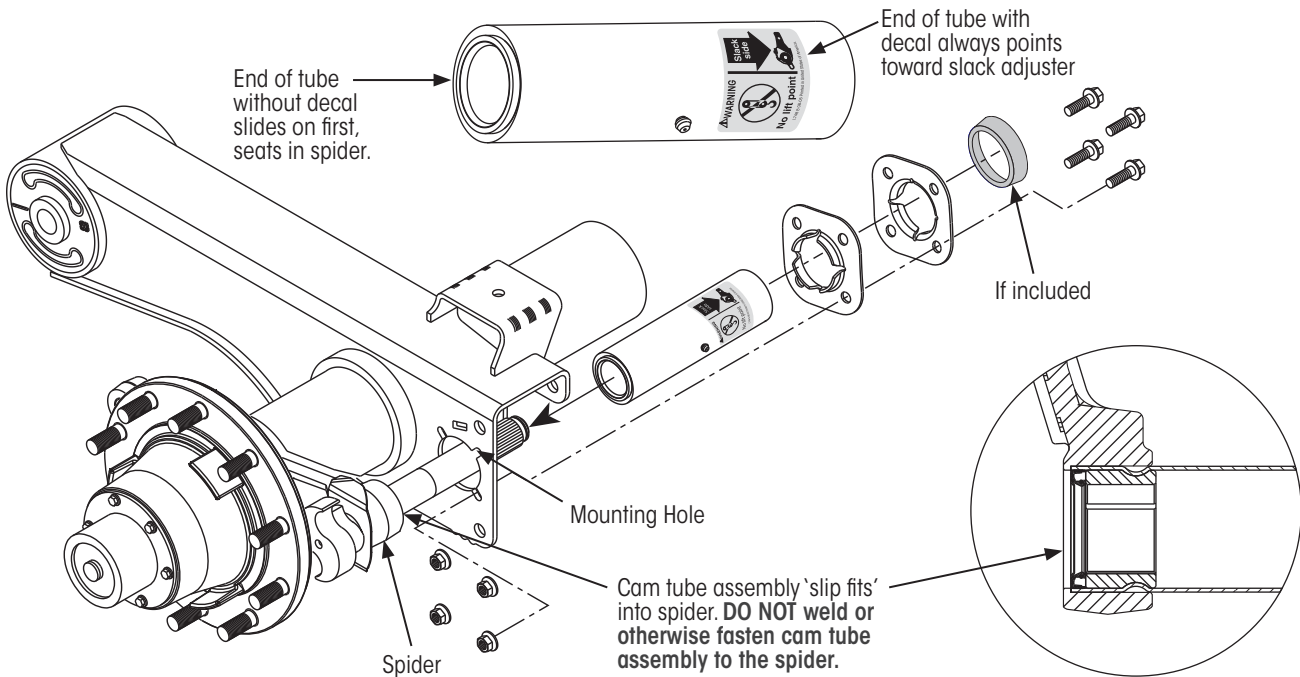

Figure 27: Cam tube assembly orientation and installation details
2. **Orient** the end of the cam tube without the decal so that it goes onto the camshaft first (Figure 27). In other words, the end of the cam tube with the decal must be closest to the slack adjuster.
3. From the inboard side of the suspension beam, **slide** the new cam tube assembly onto the new S-cam, through the mounting hole in the suspension beam and into the spider as shown in Figure 27.